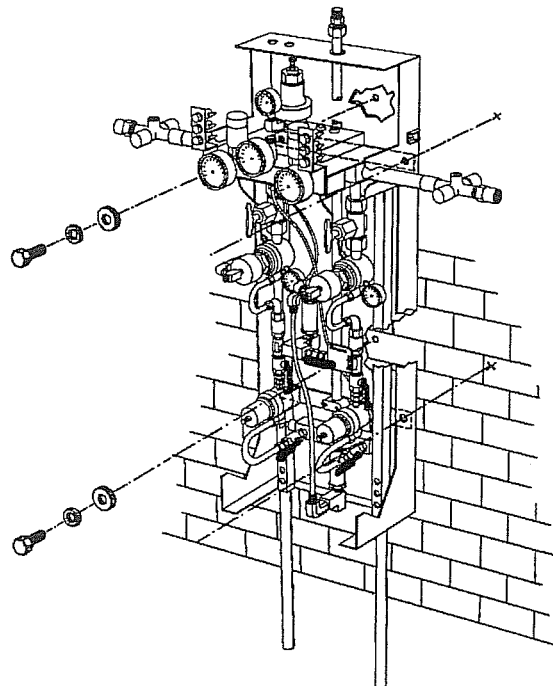

Figure 2-4
- Lift the manifold up onto the wall-mounting legs, move it into position against the wall, and mark the wall through the four holes in the frame brackets. (Figure 2-4)